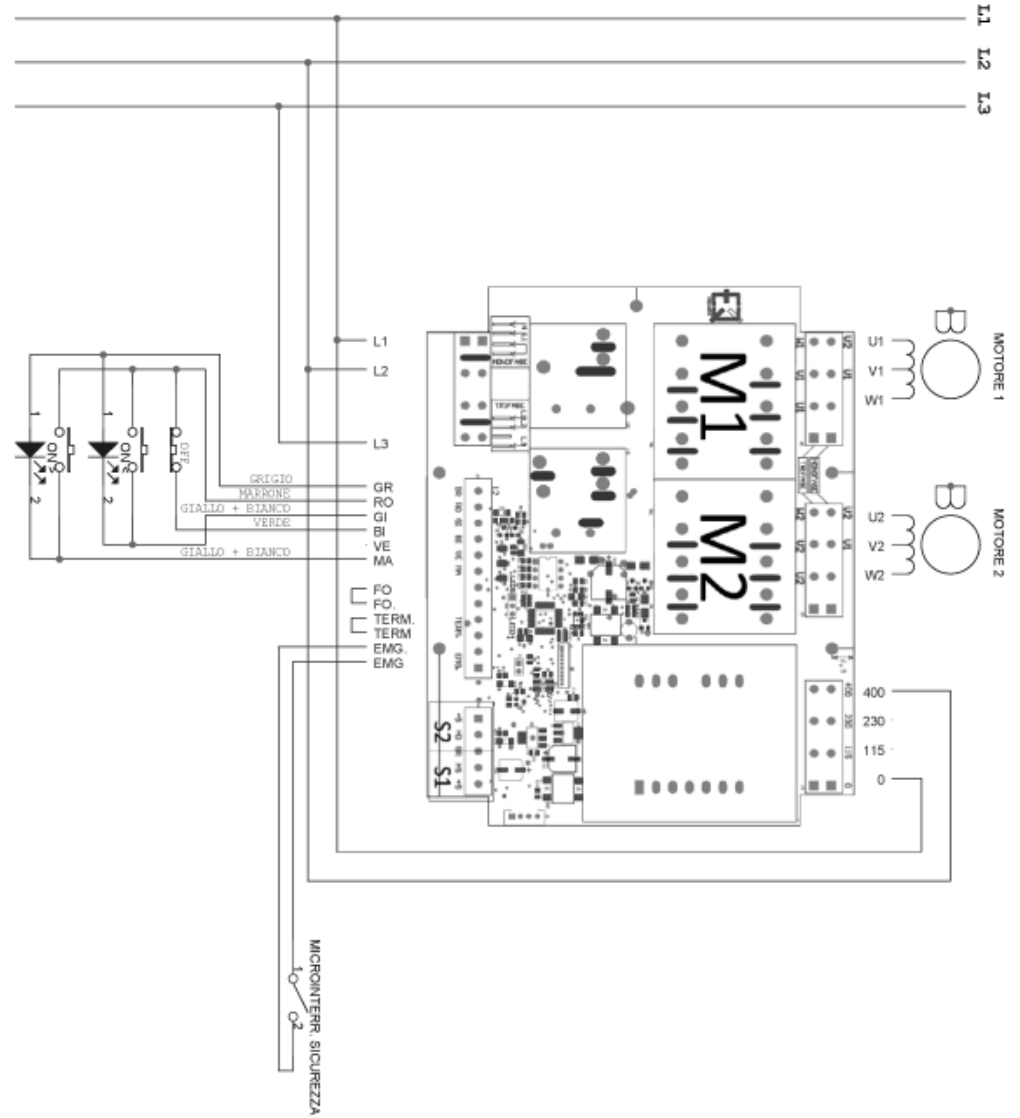

Fig. 2.4.3
2.4.3 Three-phase wiring diagram of stainless steel controls (Fig.2.4.3)
2.4.4 - Single-phase wiring diagram of stainless steel controls (Fig.2.4.3)